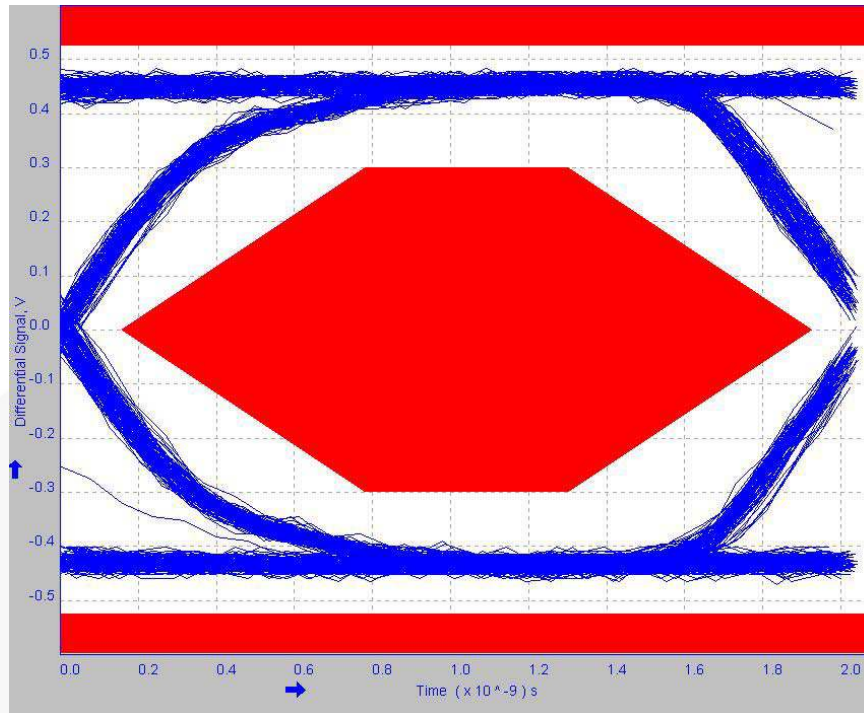
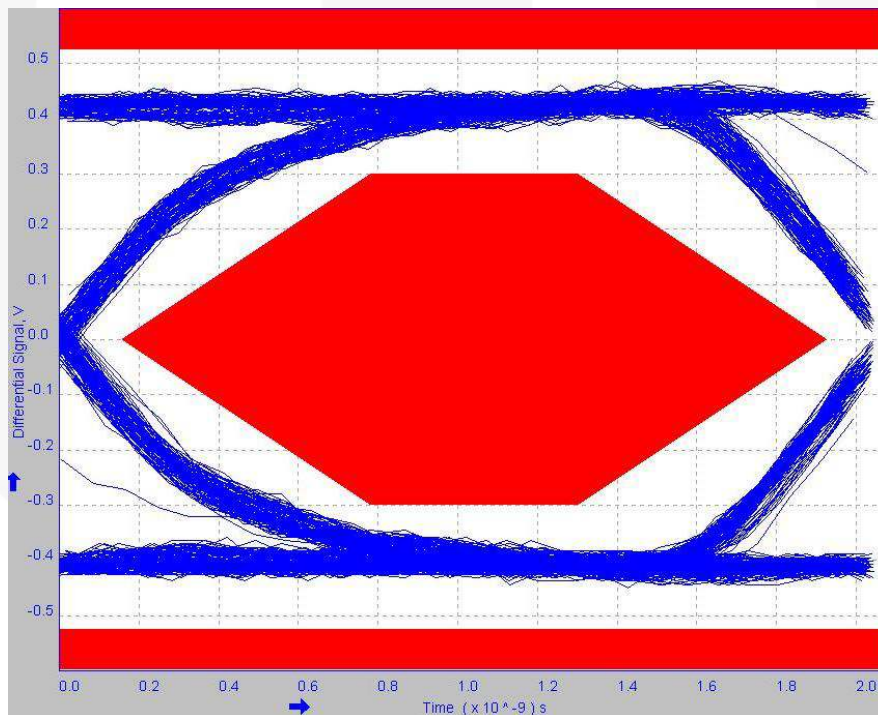

Figure 3. USB 2.0 HS-USB Eye Compliance Pass Through (without Switch)
Figure 4. USB 2.0 HS-USB Eye Compliance with Switch
1. Figure 3 indicates the HS-USB eye compliance of the source across a characterization board prior to the implementation of the switch.
2. Figure 4 shows the total impact the switch has on HS-USB eye compliance when compared to Figure 3